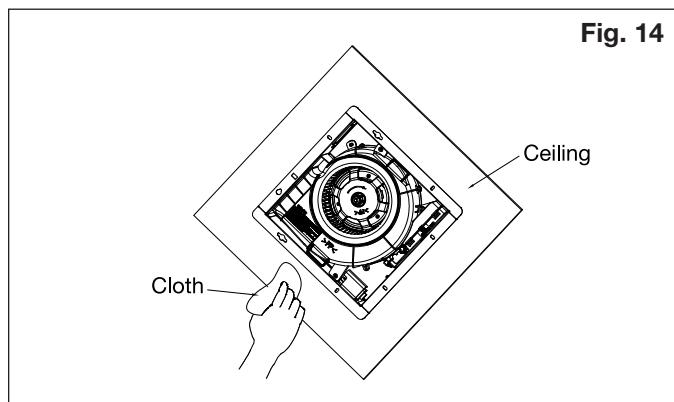

Fig. 14
4. Use a cloth dampened with kitchen detergent to remove any dirt from fan body. Wipe dry with clean cloth. See Fig. 14.